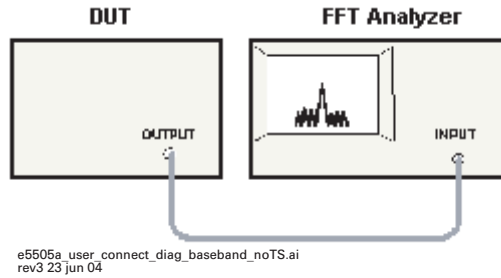
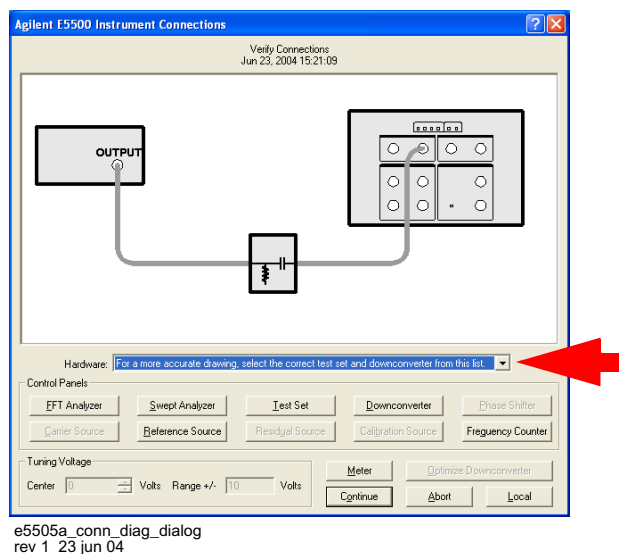

Figure 257 Connect diagram for baseband without test set measurement
Figure 258 Instrument connection dialog box
- 3 The **Instrument Connection** dialog box appears. (See Figure 258 on page 330.) At this time, connect your DUT and an FFT analyzer with the system as shown in Figure 257 on page 330.